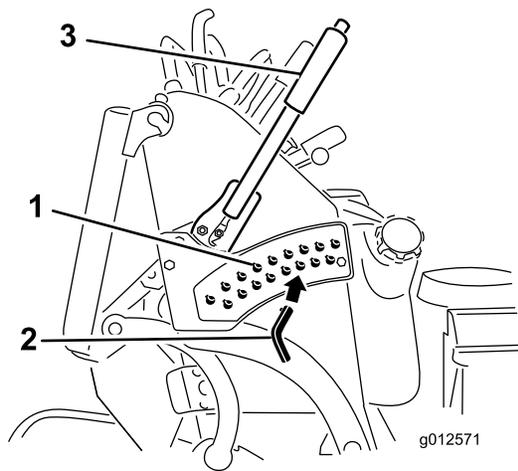

Figure 28
3. Select a hole in the height-of-cut bracket corresponding to the height-of-cut desired and, insert the pin (Figure 28).
4. Push the button on top and lower the height-of-cut lever to the pin (Figure 28).